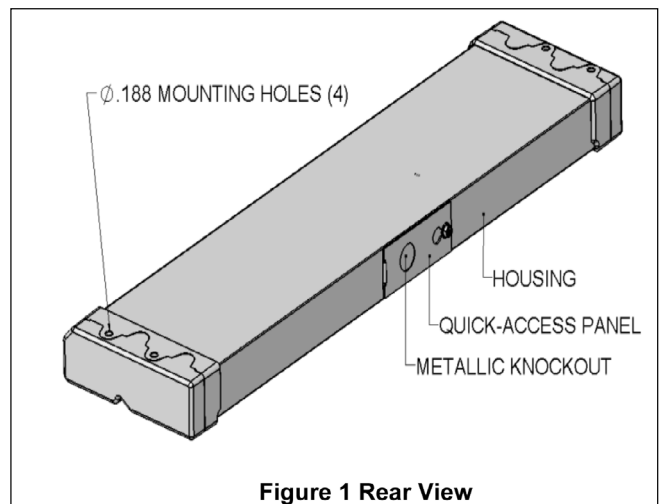

Figure 1 Rear View
2. When fixture is positioned correctly, secure fixture by the mounting holes (see Figure 1) with four #8 screws (F).